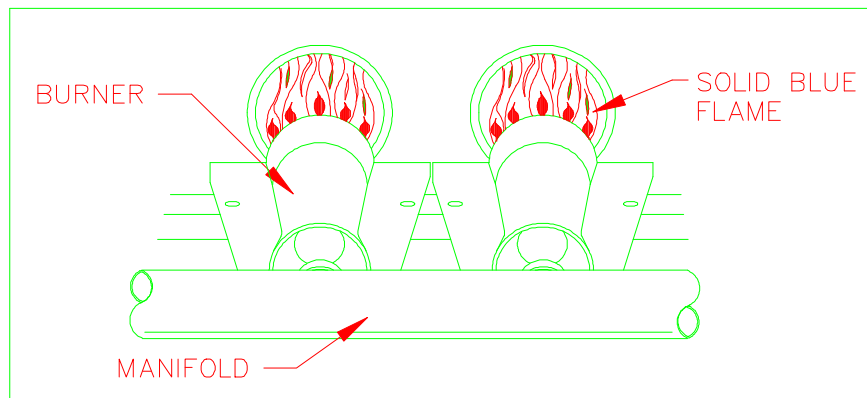

Figure 5.
3. Return Air Duct Connection: Check to see if it is: (1). physically sound (2). sealed to the furnace casing and (3). terminates outside the space containing the furnace.
7. Make sure the burner flames are in good adjustment (See Figure 5). Burner flames should not impinge or fire against the side of the tube opening.